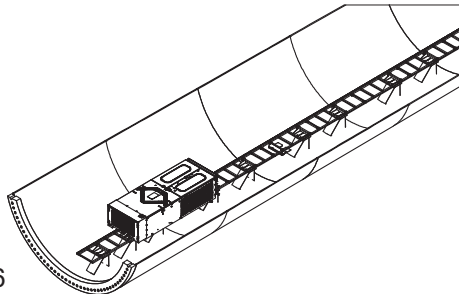

Fig. 6
4. Position the cabin inside the bottom tower section ensuring that bottom guiding rollers are aligned with a ladder support (see Fig. 6).